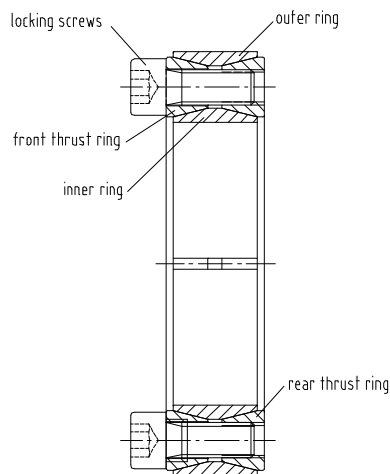

fig. 1
1. Loosen all locking screws in several stages. CANTO-LOCK C - 1014 series feature self-releasing tapers, meaning thrust rings should release automatically. If for some reason the thrust rings jam, a light tap on 3 equally spaced heads of loosened locking screws will release the connection (fig. 1).